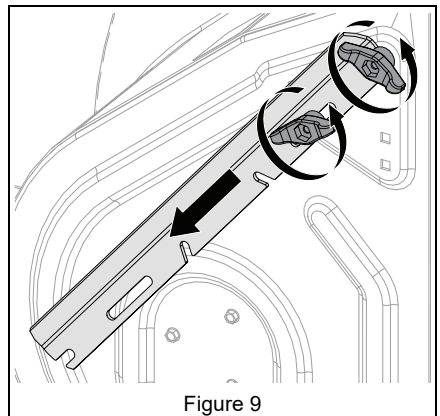

Figure 9
1. Loosen wing knobs and move drift cutter down. See Figure 9.